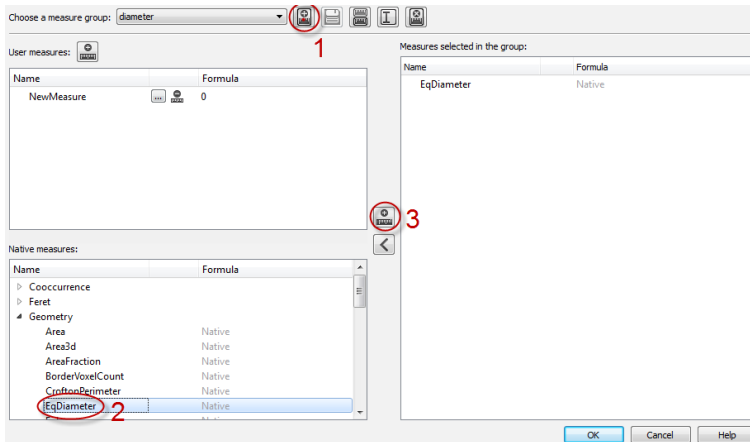

Figure 6.49: Selection of measure groups
- Press on the configuration button of the *Measures* port (the button with 3 dots). A panel opens for the selection of measure groups (see Figure 6.49).